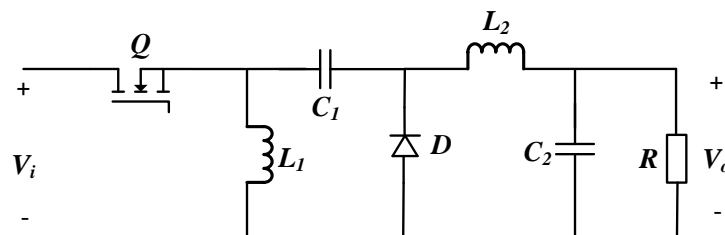

Fig. 3: Zeta converter
- (b) A Zeta converter is shown in Fig. 3 and all components are assumed to be ideal.